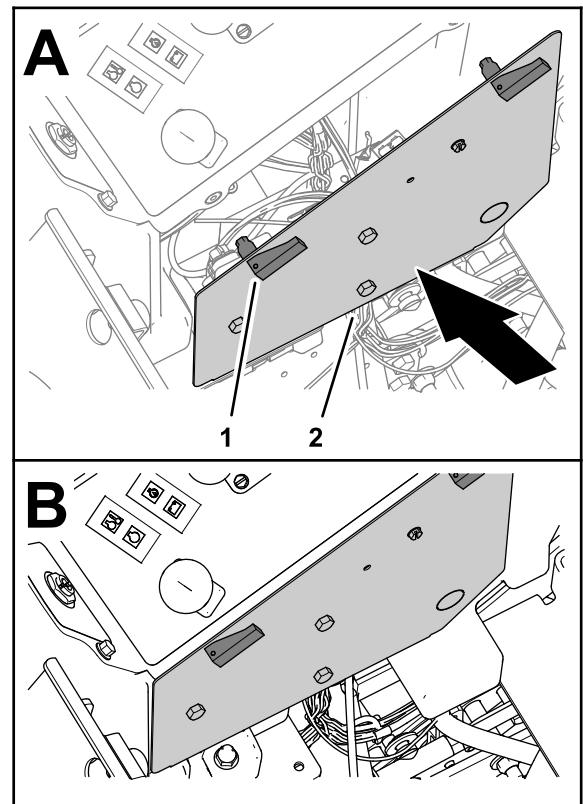

Figure 14
1. Align latches of the control panel cover with the holes in the control panel (Figure 14).
2. Secure the cover with the latches (Figure 14).